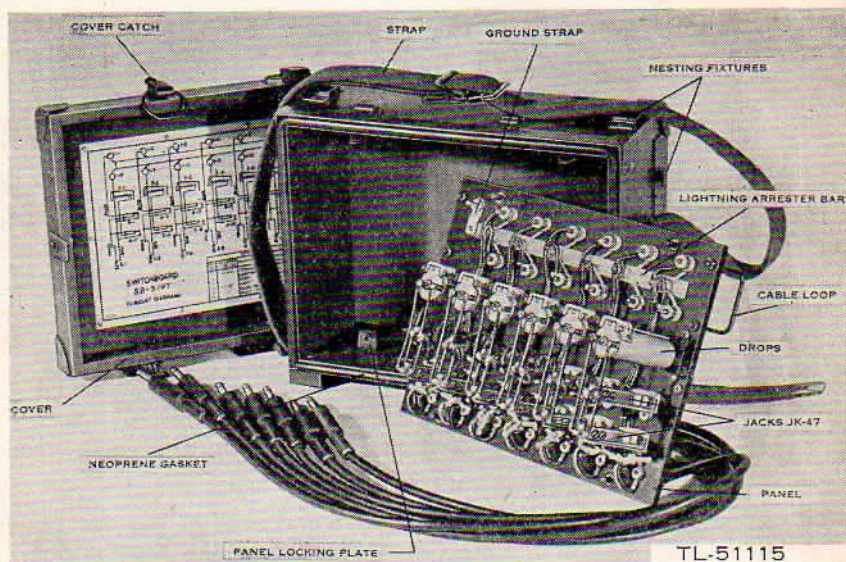

Figure 8. Switchboard SB-5/PT, rear view of panel.
(2) DISASSEMBLY. Loosen the four panel retaining screws. Remove the panel from the box (fig. 8).
(3) DRYING. Place the panel in an oven and dry for 2 or 3 hours at 160°F.
(4) VARNISHING. Do not spray. Brush-treat all metal parts and wiring on the back of the panel, except those parts listed below, with three coats of moistureproofing and fungiproofing varnish.